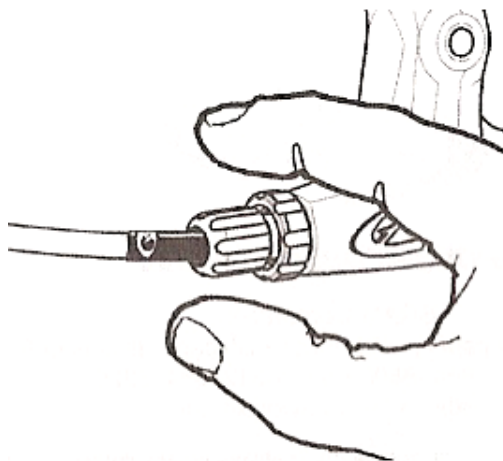
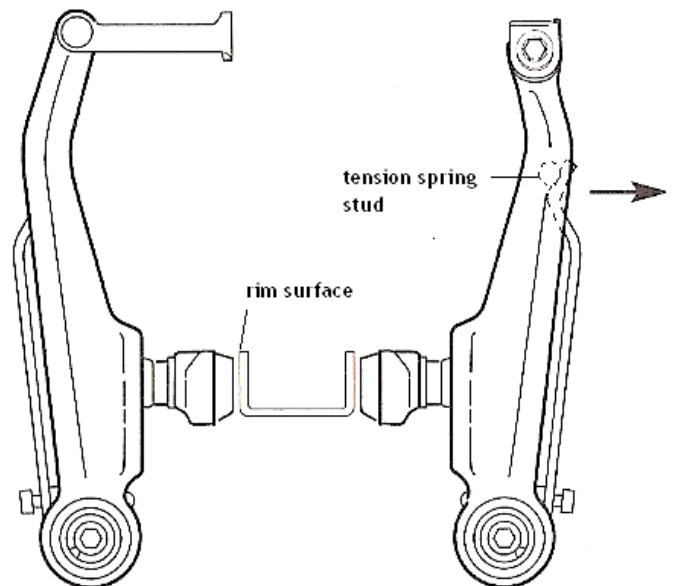

Fig.1.
Fig. 2.
**To adjust the V-brakes,** back out the adjustment barrel on each brake lever about halfway **Fig.1**. Next, locate and release the tension from the brake arm by carefully pulling the tension spring over the metal stud **Fig 2**. Loosen the brake pad hex bolt so the brake pad is loose on the brake arm. Line up the brake pad so the arch of the brake pad is UP (aligned with the wheel rim) and the brake pad has confident